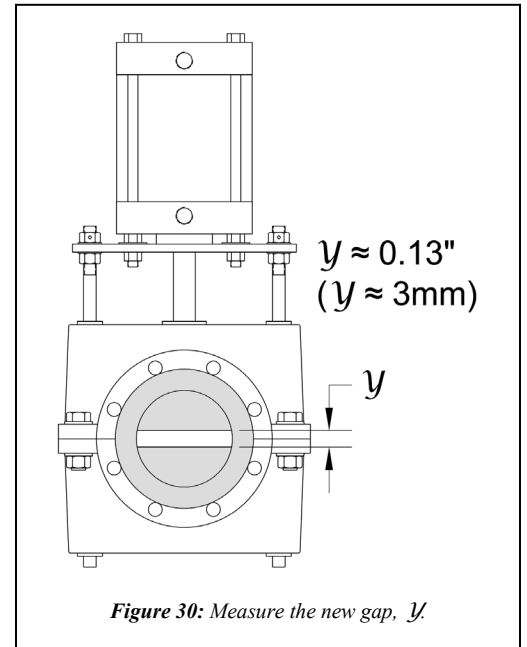

Figure 30: Measure the new gap, Y.
STEP 7: Actuate the RV Valve closed again and measure the size of the new gap, Y. It should be roughly 0.13" (3mm) in size (Fig. 30).